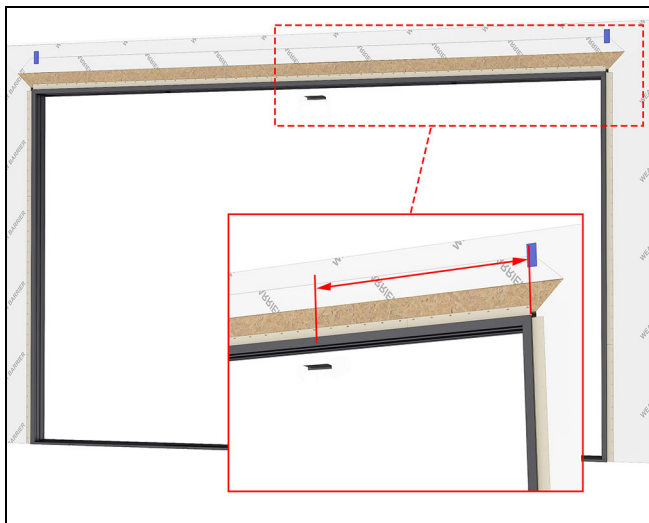

Figure 158 XOOX
1. Measure the net clear opening width of the frame and divide the value by two. Transfer that measurement to the exterior track of the head jamb and center the top stationary bracket at that measurement. See Figure 158.